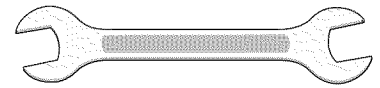

Fig. 11
- Open end wrench - 1/2" (Fig. 11).